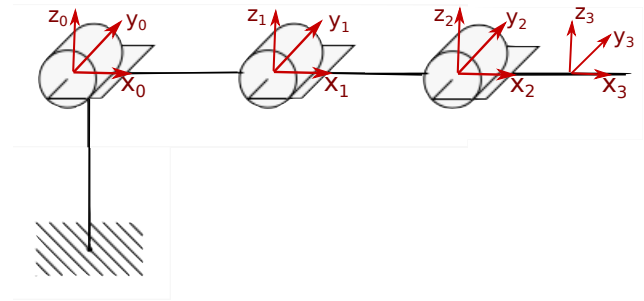

Fig. 3. Symbolic form of Figure 1, along with frame assignments
2) *Assignment of frames*: The first step toward solving our problem is to redraw our robot in symbolic form, and assign frames for links 0 through 3. This is shown in Figure 3. Frame 0 ($x_0y_0z_0$) is assigned at the first joint, frame 1 ($x_1y_1z_1$) is assigned at the second joint, and frame 2 ($x_2y_2z_2$) is assigned at third joint. Frame 3 ($x_3y_3z_3$) is assigned at the end of link 3.